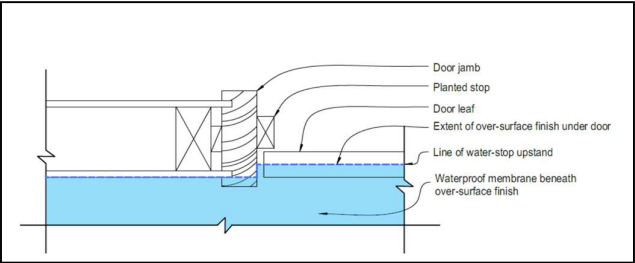

Figure 18: Plan view of water-stop under a door jam
- ✓ Figure 18: Plan view of water-stop under a door jamb